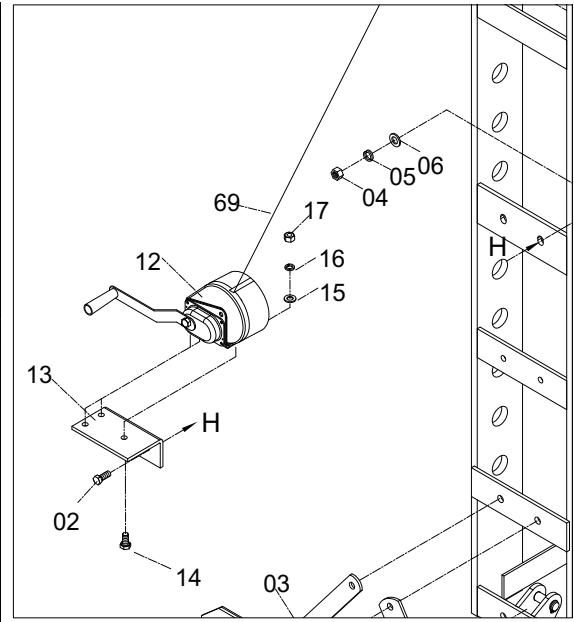

Figure 3
- 7) Move the hand winch (#12) from its shipping position to the outside of the post. Using the same hardware - bolt (#02), flat washer (#06), lock washer (#05), and nut (#04) to mount the winch to the outside frame using mounting bracket (#13). (Figure 3)